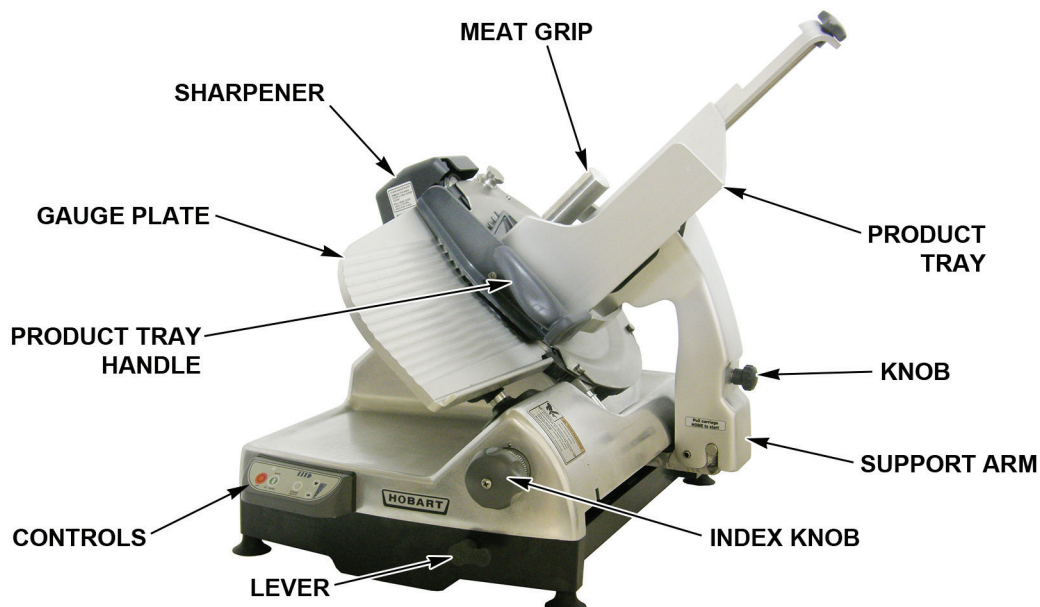

Fig. 1
- Gauge Plate Interlock – prevents the Product Tray (Fig. 1) from being tilted or removed unless the Product Tray is in the home position (pulled all the way forward) and the Gauge Plate is closed.
- Home Start – requires the Product Tray (Fig. 1) to be in the home position (pulled all the way forward) before the slicer can be started.
- Close-to-Stop – turns the slicer off when the Gauge Plate is returned to the closed position by turning the Index Knob (Fig. 1) fully clockwise. The slicer also is turned off if the OFF button is pressed.
The Product Tray (Fig. 1) must be installed.
- Close the Gauge Plate (Fig. 1) by turning the Index Knob (Fig. 1) fully clockwise.
- Pull the Product Tray (Fig. 1) toward the operator until it reaches its stop. This is the home position.
- Raise the Meat Grip (Fig. 1) to the top of the Product Tray to rest in the Meat Grip Slot.
- Place the product to be sliced against the Gauge Plate (Fig. 1) on the Product Tray (Fig. 1).
- Use the Product Tray Handle (Fig. 1) to push and pull the Product Tray back and forth to slice. When finished, pull the Product Tray forward until it stops. Turn the Index Knob fully clockwise to close the Gauge Plate. This will turn the slicer off. The OFF Button (Fig. 4) can also be pressed to stop the slicer.